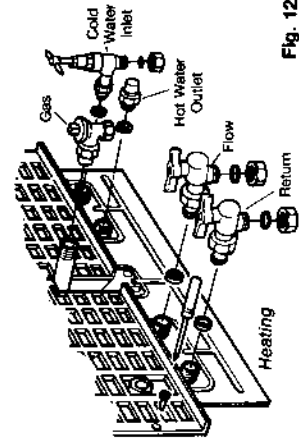

Fig. 12
5.3.4 Loosely fit (hand tight) the valves and fittings using the washers supplied (Fig 12)
- 5.6.1** Figs 12 and 16 show the locations of the fittings.